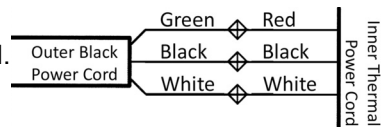

Figure 2
- A Smoke Guard baffle is included with wood burning Heat Exchangers. The Smoke Guard helps prevent smoke spillage and may improve draft flow. The Smoke Guard attaches to the bottom of the Heat Exchanger with two (2) sheet metal screws provided. **(Figure 2)**